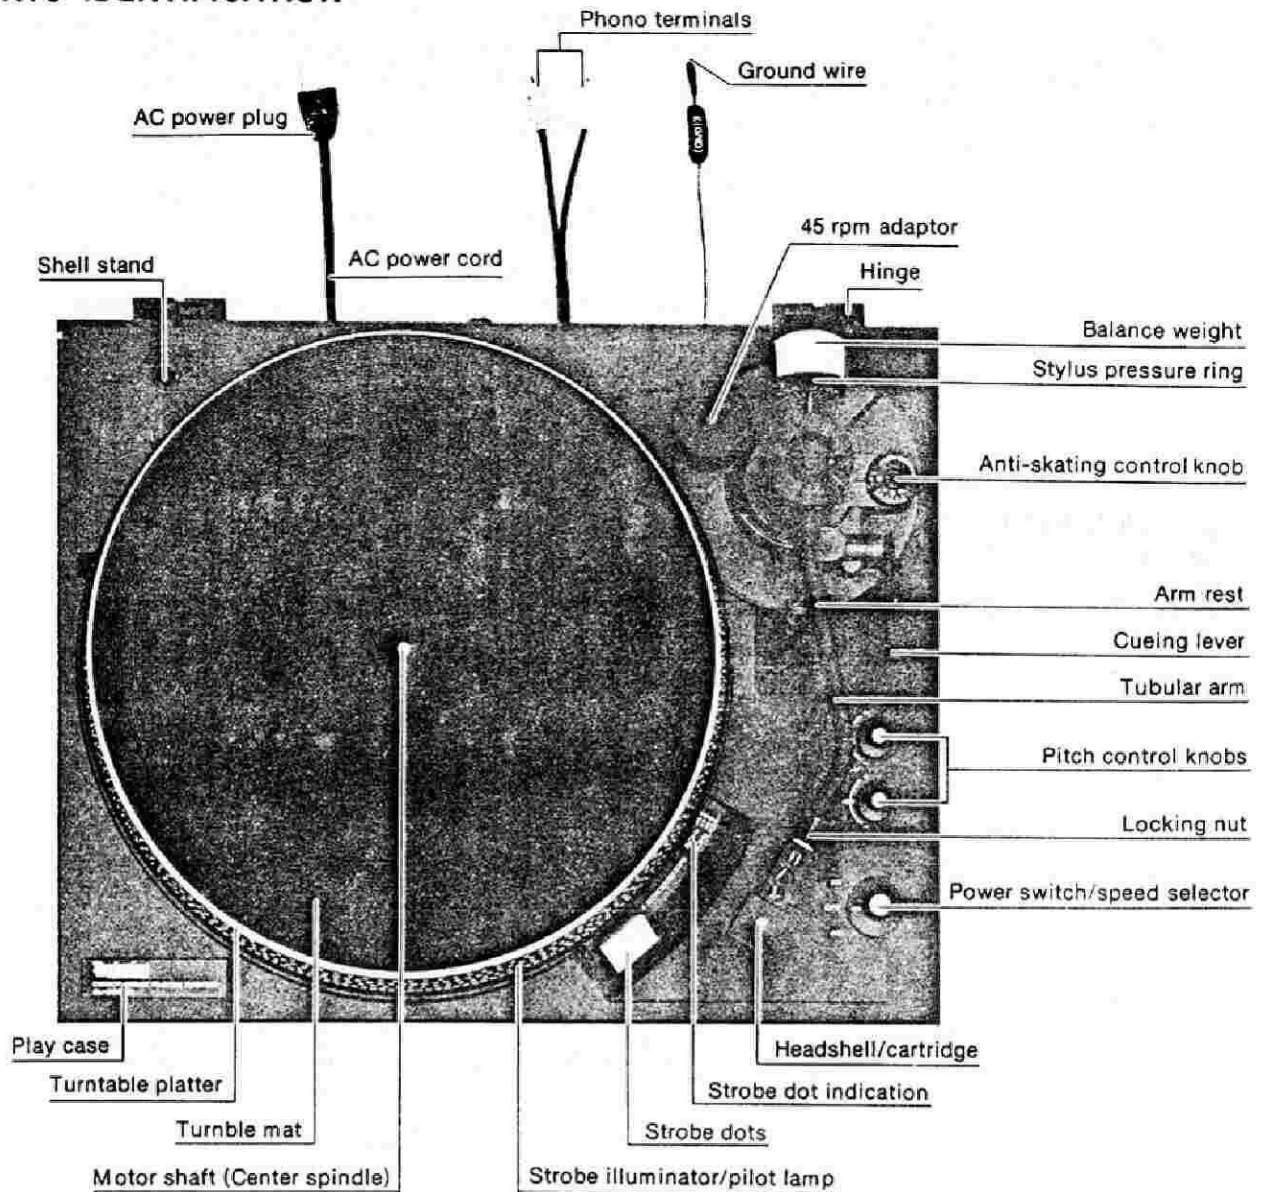

Fig. 1
- 2) Ensure that the anti-skating knob is at "0" position. (See Fig. 1)
- 3) Make certain that the power switch/speed selector is in "OFF" position. (See Fig. 1)